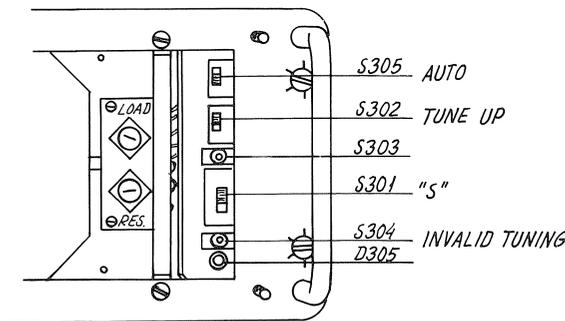

Fig. 1
- 5.3.8. Set the switch S305, see fig. 1, in position Manual.
- 5.3.13. Set the drive level potentiometer in question fully counter clockwise, see fig. 1.